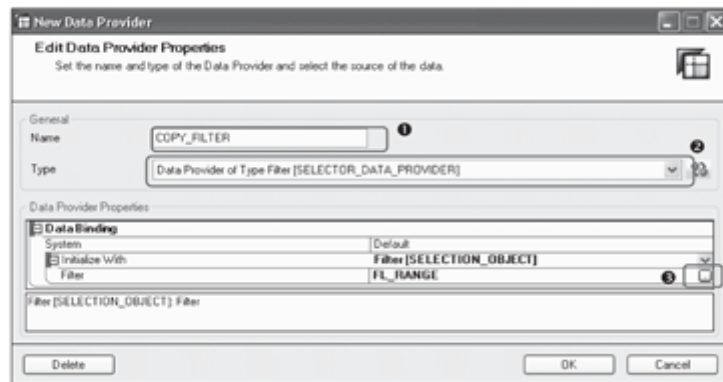

Figure 12.90 Define Filter Data Provider
4. Another type of data provider needed in building a planning application is the filter type. This type of data provider is used in the execution of planning functions because planning functions are always executed on some filter. Create a new data provider, as shown in Figure 12.90. Give a description to the data provider